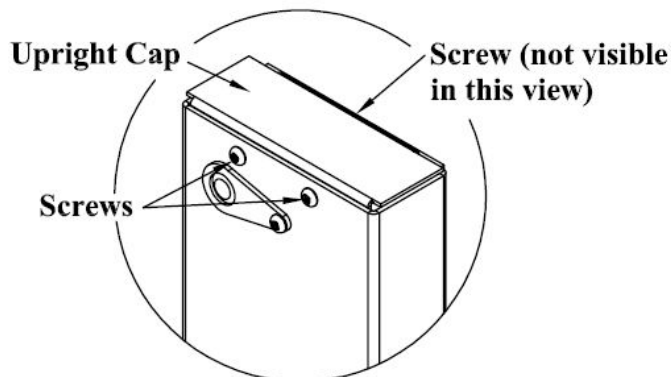

Figure 1. Three screws per upright for the 40 inch travel lift.
- 4) Remove the Phillips head screw(s) that hold the upright caps in place, then remove both upright caps (Figures 1 & 2).